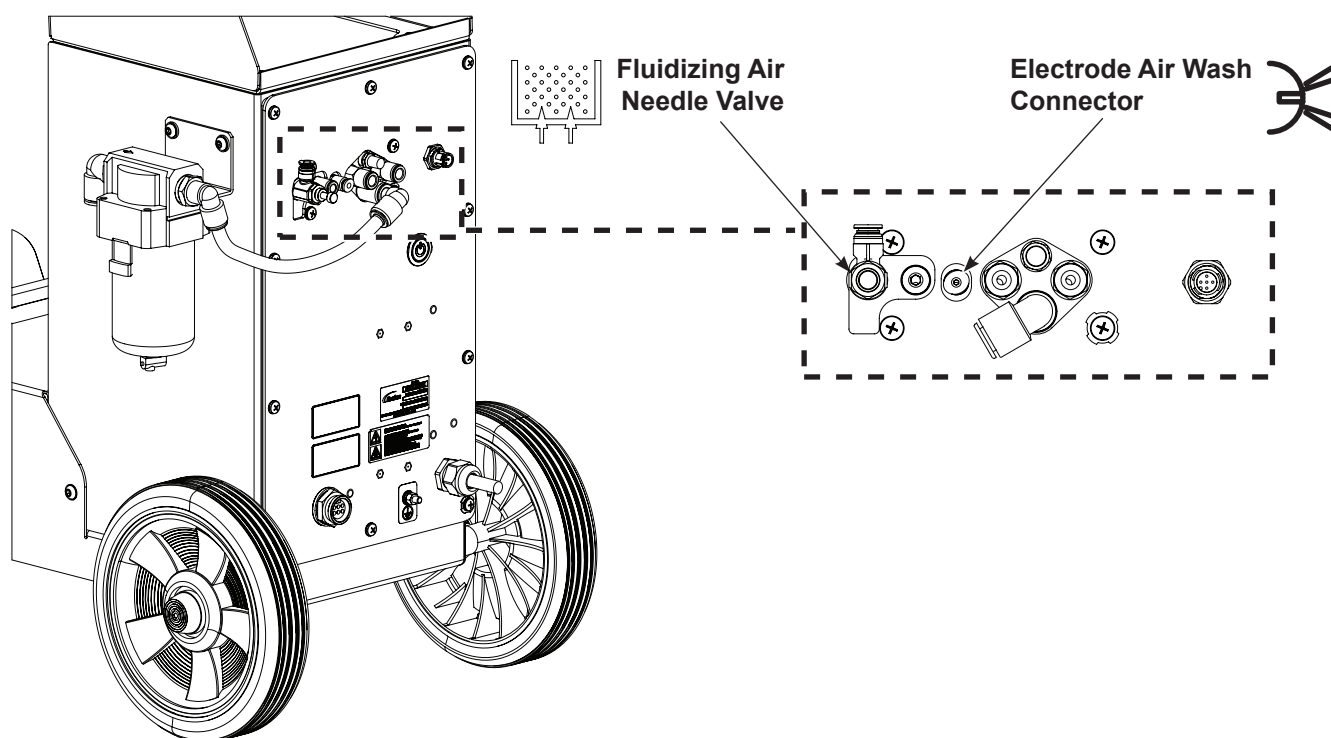

Figure 4-2 Electrode Air Wash and Fluidizing Air Valve Location (shown without flow control valve)
See Figure 4-2. Use the fluidizing air  needle valve to adjust the fluidizing air pressure as low as possible: 0.07–0.14 bar (1-2 psi).
See Figure 4-2. Use the fluidizing air  needle valve to adjust the fluidizing air pressure so the pressure is just enough so the powder in the hopper “boils” gently. The fluidizing air causes the powder to increase in volume.
See Figure 4-2. Electrode air wash air continually washes the spray gun electrode to prevent powder from collecting on it. Electrode air wash air turns ON and OFF automatically when the spray gun is triggered ON and OFF.
- a. See Figure 4-2. Use the fluidizing air  needle valve to adjust the fluidizing air pressure so the pressure is just enough so the powder in the hopper “boils” gently. The fluidizing air causes the powder to increase in volume.